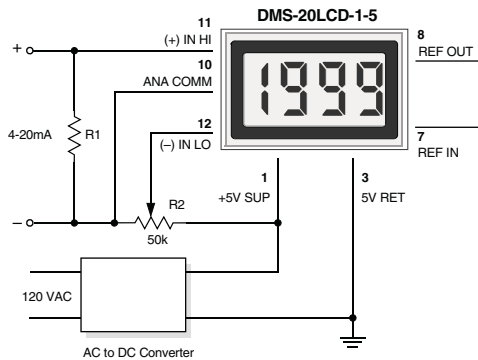

Figure 7. 4-to-20mA Current Loop Operation (5V-Powered Models)
5. Process Control (4-to-20mA) Measurements: In many common process-control applications, a 4-to-20mA current loop is used to transmit information. Because DMS-20LCD meters have such high input impedance, a simple shunt resistor across the meter’s input can be used to convert the loop current to a voltage. See Figure 7. The value of the shunt resistor is a function of the scaling requirements of the particular application and can be calculated using the following equation:
To calibrate the circuit of Figure 7, perform the following: